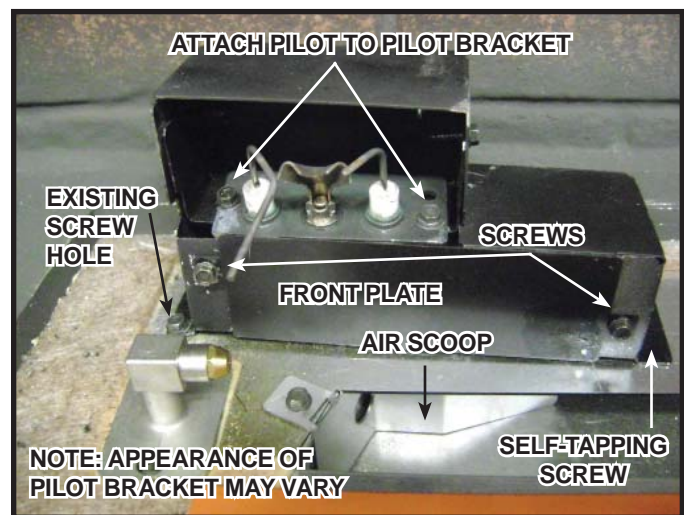
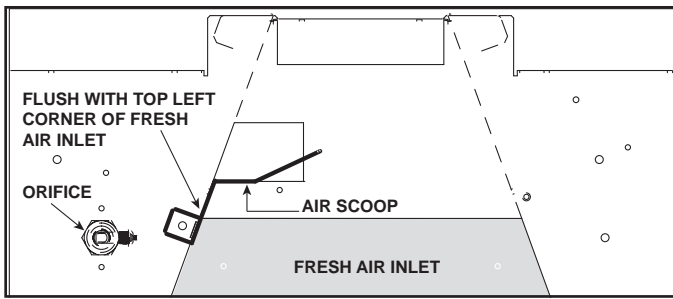

Figure 10. Pilot Bracket and Air Scoop Installation
Figure 11. Air Scoop Location (Top View)
Secure left side of bracket by installing a screw into the existing hole. See Figure 10. Use a self-tapping screw to secure the right side of the pilot bracket. Ensure the pilot bracket will be positioned parallel to the back wall of the fire box.
20. Attach pilot to pilot bracket with two screws. See Figure 10.
24. Reattach the front plate onto the pilot bracket, securing it with two screws. See Figure 10.
25. Place the air scoop down into the opening directly to the right of the burner orifice so that the screw tab is flush to the back corner of the fresh air inlet. See Figure 10 and Figure 11.
26. Secure the air scoop in place using a self-tapping screw. See Figure 10 and Figure 11.